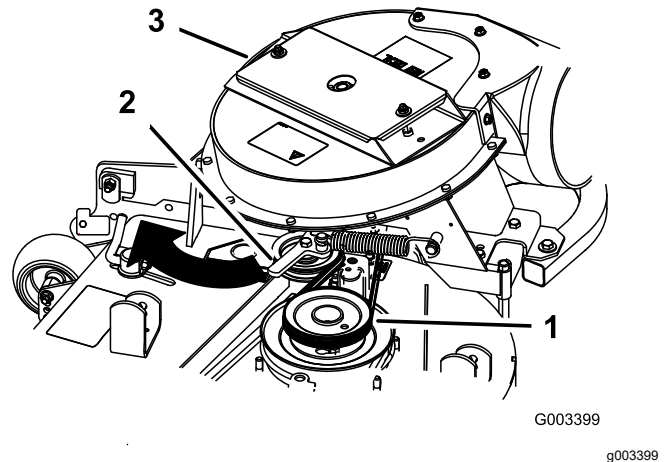

Figure 17
5. Pull the spring-loaded idler pulley back and route the belt around the mower-deck pulley (Figure 17).
Note: Ensure that the belt is routed around the blower pulleys correctly (Figure 17).